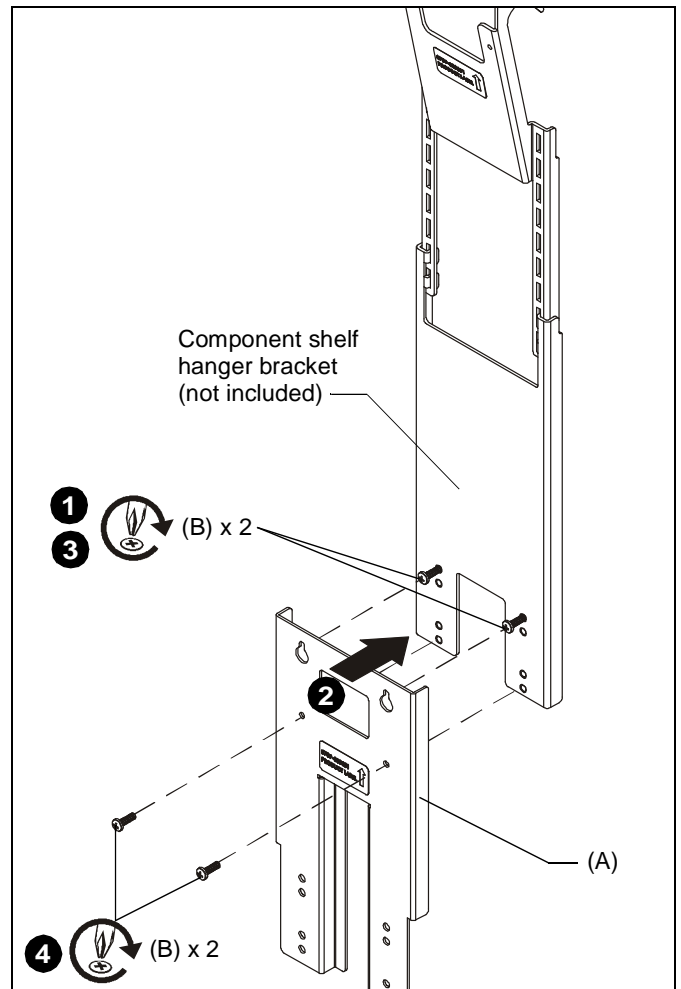

Figure 1
1. Install two 10-24 x 5/8" Phillips pan head screws (B) into component shelf hanger bracket (not included). (See Figure 1)
2. Hang extender bracket (A) onto screws installed in Step 1.
4. Install and tighten two 10-24 x 5/8" Phillips pan head screws (B) through two lower holes on extender bracket (A) into component shelf hanger bracket.